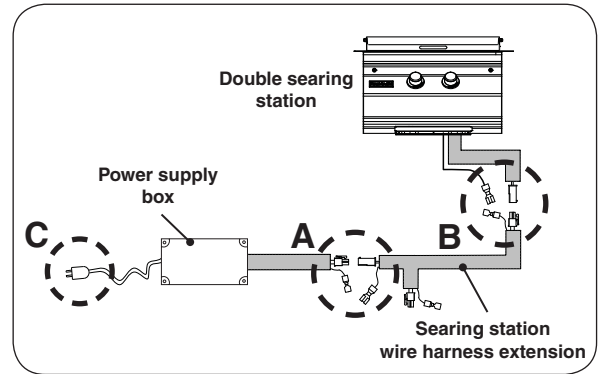

Fig. 18-1 Connect searing station to power supply
3. Connect the power supply box connectors to the searing station wire harness extension, as shown in Fig. 18-1, **A** (molex and ground wire connections).
4. Connect the searing station wire harness extension to the searing station, as shown in Fig. 18-1, **B** (molex and ground wire connections).
5. Connect the cord coming from the power supply box to a **120VAC (20 AMP minimum) GFCI GROUNDED 3-wire receptacle**. See Fig. 18-1, **C**, and 18-2. The GFCI receptacle must be a WEATHER-PROOF IN-USE COVERED RECEPTACLE.